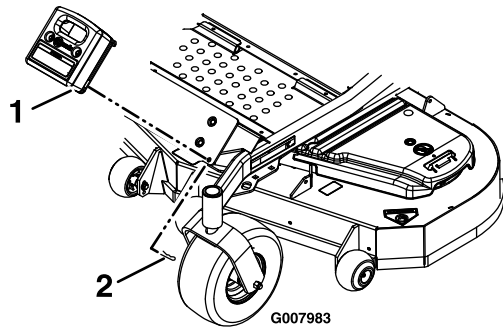

Figure 22
29. Install the removable weights. Hook the front toe board weights assembly over the top of the weight mounting plate and secure with two hairpins (see Figure 22).